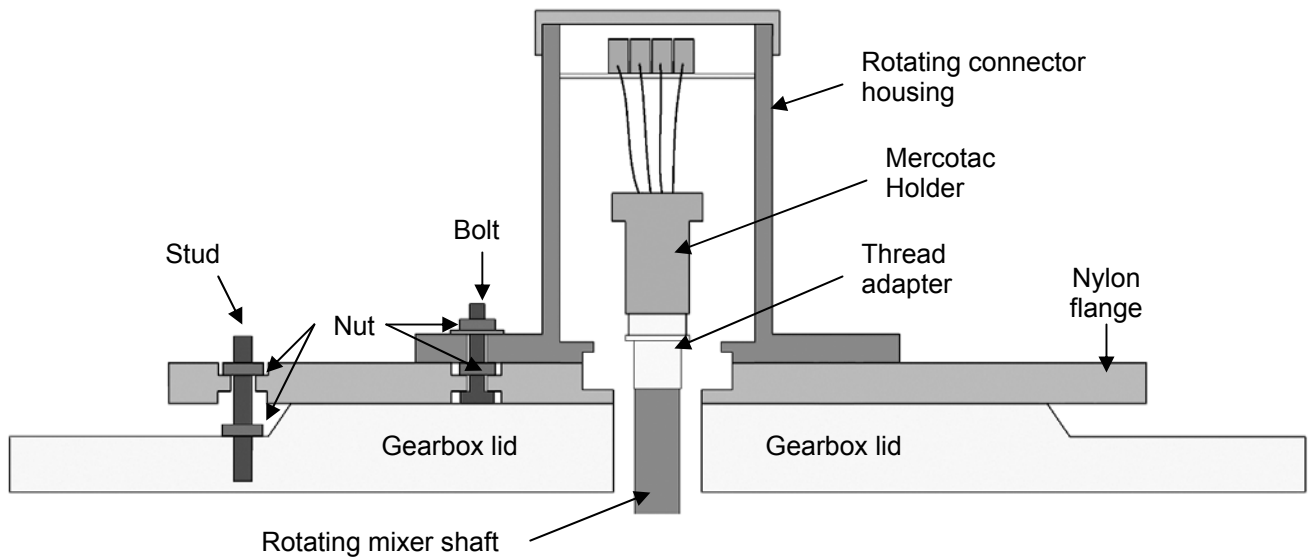

Figure 18 – Mounting the type 'A' rotating connector
- Mount the flange on top of the cover plate replacing the removed cover bolts with longer studs. Ensure the captive bolts for securing the rotating connector are in place. See figure 18.